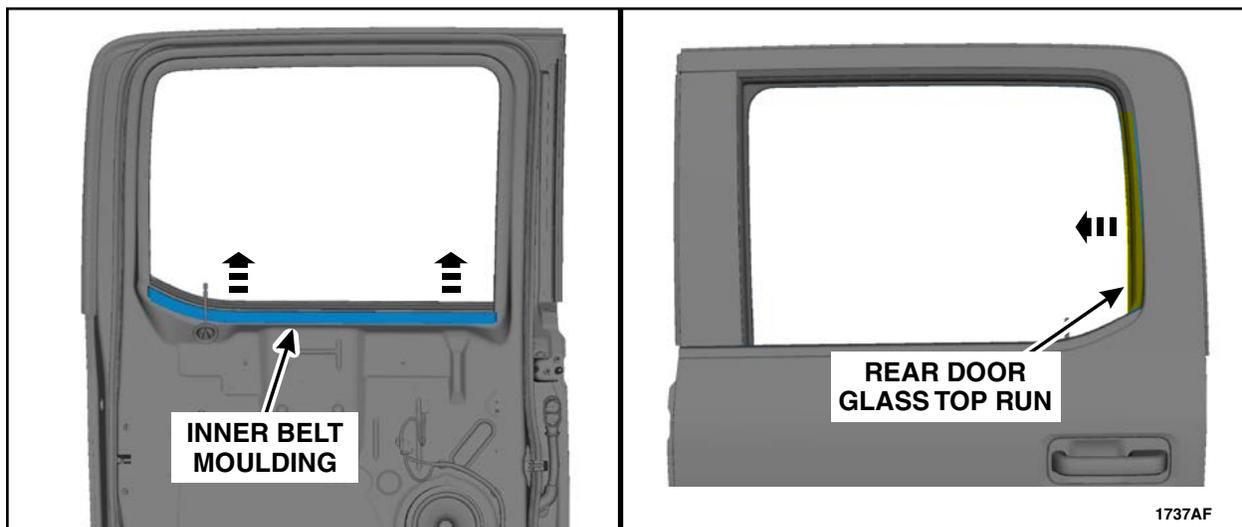

FIGURE 66
9. Remove the rear door inner belt moulding and position aside the latch side of the door glass top run. See Figure 66.
9. Install the rear door glass top run and inner belt moulding. See Figure 66.